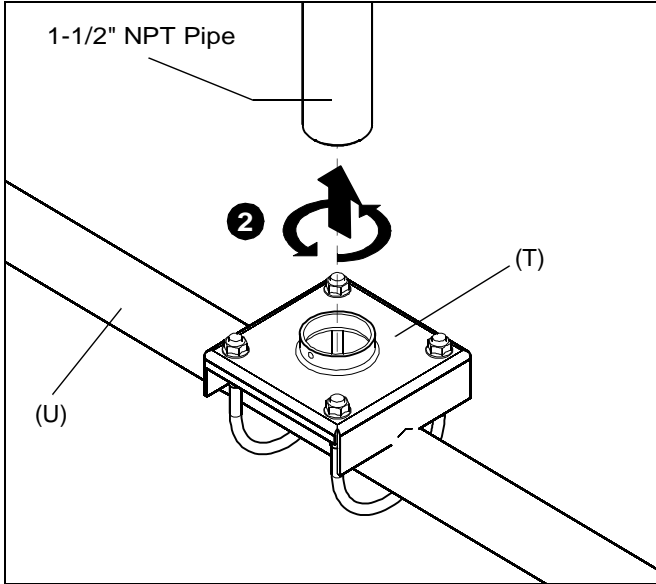

Figure 1
1. Assemble the CMA-365 (T) and CMA-048 (U) together following instructions included with those kits.
2. Thread assembled CMA-365 (T) with CMA-048 (U) onto 1-1/2" NPT pipe until hand tight. (See Figure 1)
3. Slide two mounts (A) onto CMA-048 (U) column, one on each side of the CMA-365 (T).